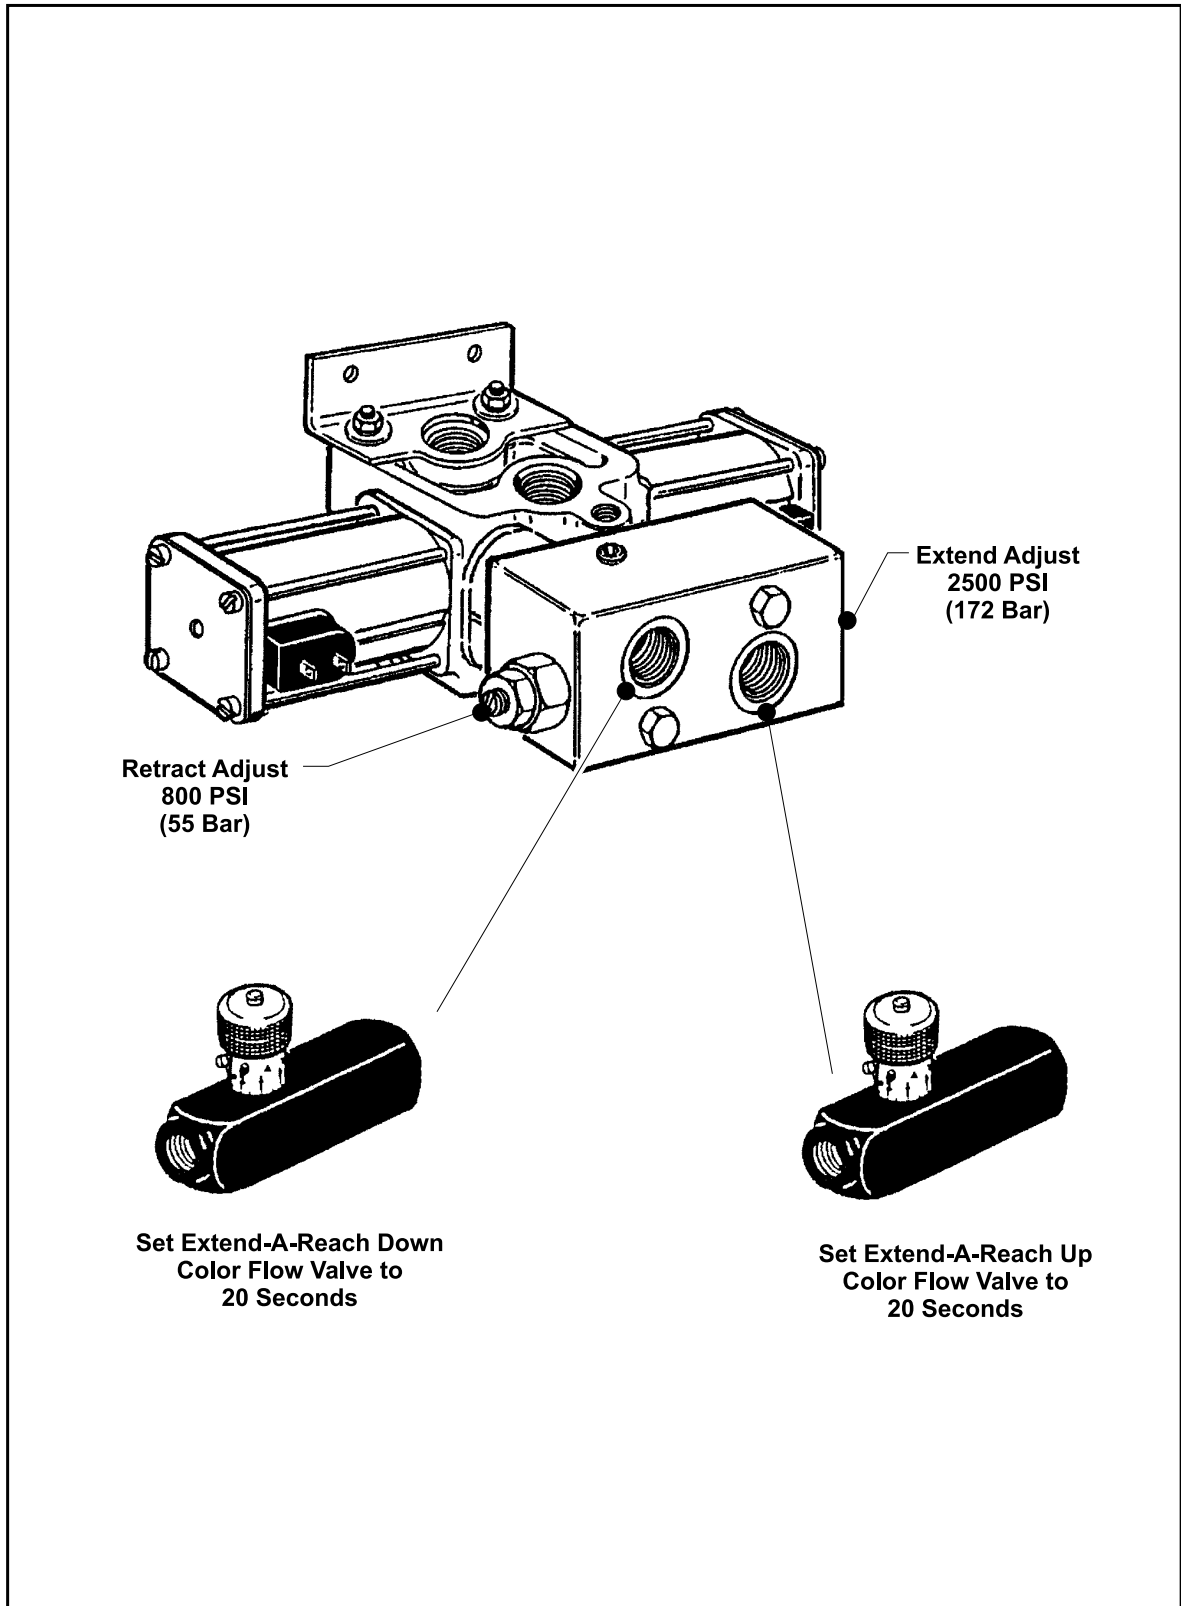

Figure 2-28. Extend-A-Reach Valve Pressure and Speed Settings
5. Extend - A - Reach Valve Pressure and Speed Settings are shown in Figure 2-28.